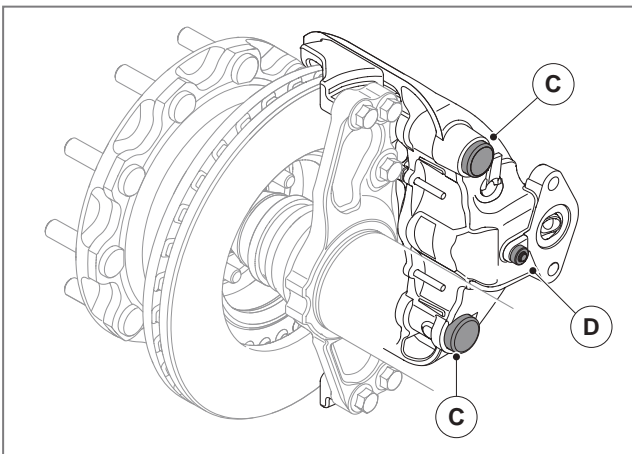

Fig. 21 - Two protective caps
5. Two protective caps to protect the guide pins (C), see ► Fig. 21.
The nut (D) must not be adjusted, see ► Fig. 21.